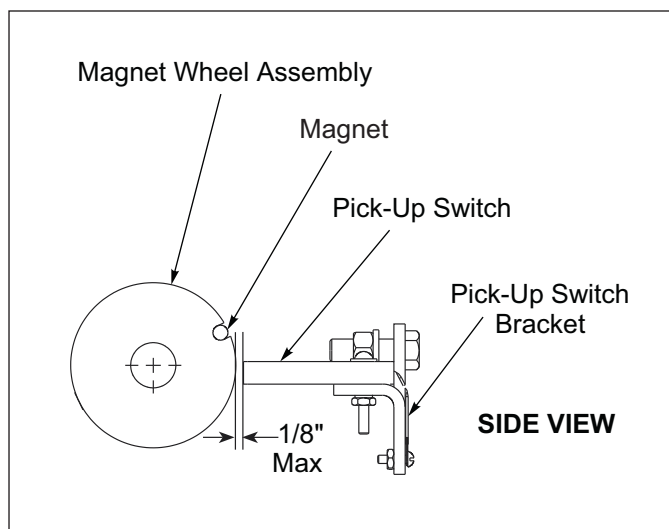

Figure 2-39: Pick-Up Switch Detail
6. Adjust the Pick-Up Switch and Pick-Up Switch Bracket so the centerline of the Magnet Wheel Assembly and Pick-Up Switch are horizontally and vertically aligned with maximum 1/8" between the Magnet Wheel Assembly and Pick-Up Switch. Tighten all Screws. See Figures 2-39 and 2-40.